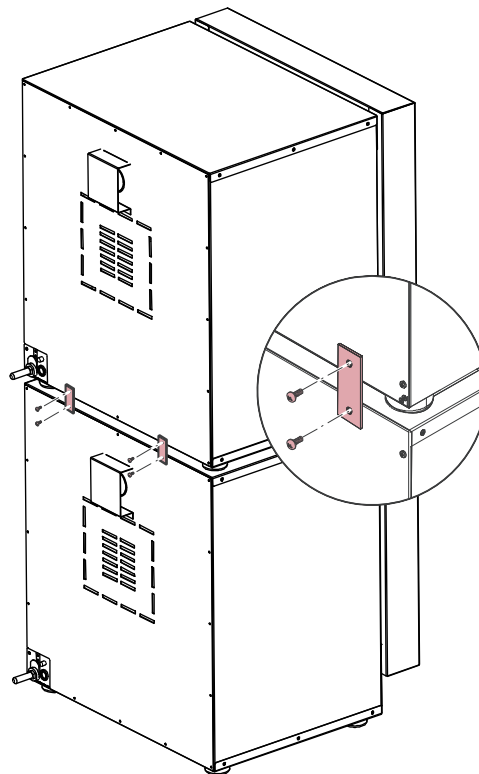

Figure 5: Placing two DRY-Line drying ovens on top of one another
3. Fasten two flat assembly bars with these screws at the upper edge of the rear panel (see Figure 5).